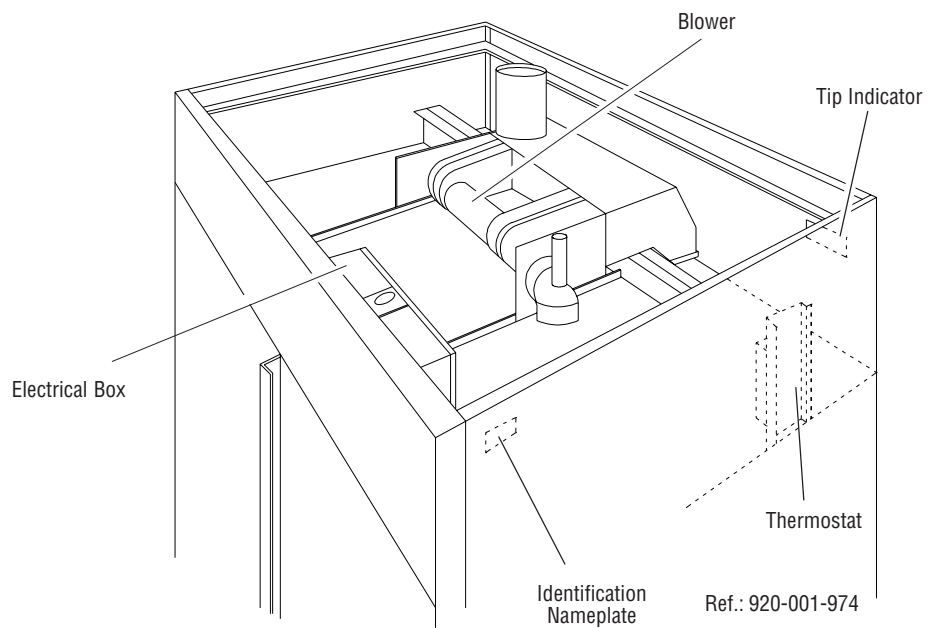

Figure 2-2. Check Tip Indicator
6. Check tip indicator, located inside dryer service compartment (see Figure 2-2). Tip indicator contains a blue compound at the bottom of the indicator. If unit has been tipped, residue from the blue compound will be found higher up in the indicator.
- Utility service requirements are shown on Equipment Drawing. This machine requires either 208 volts, 60 Hz, 3-phase, 4-wire or 480 volts, 60 Hz, 3-phase, 3-wire. Check Equipment Drawing or Identification Plate (located inside dryer service compartment, see Figure 2-2) for proper voltage.